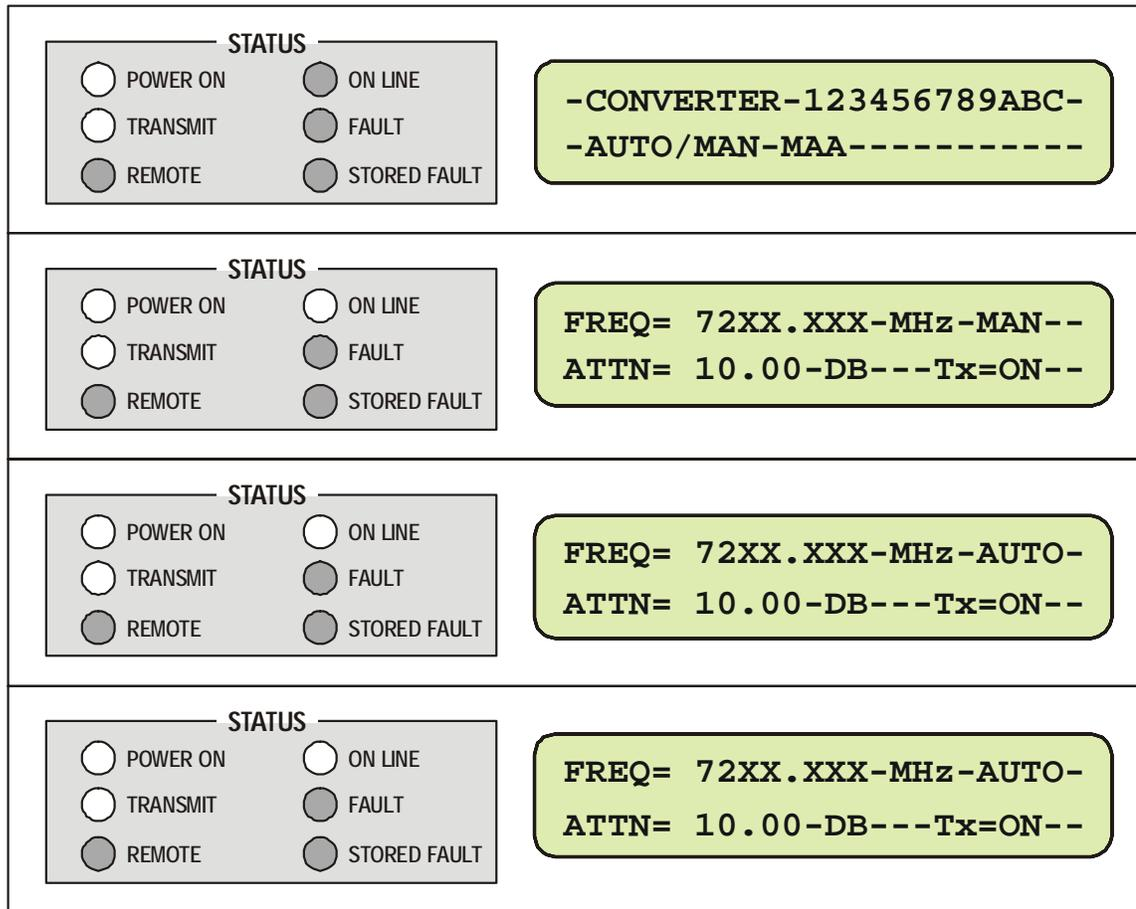

Figure 31. Converter #1 in MANUAL, Others in AUTO
Figure 31 shows the system with converter #1 configured for manual(M) operation. In this mode, the backup Converter can force switchover of an online unit. This mode also overrides fault status detection of the online units performed by the backup Converter. If an online unit is configured to manual mode and this unit faults, no switchover will occur.